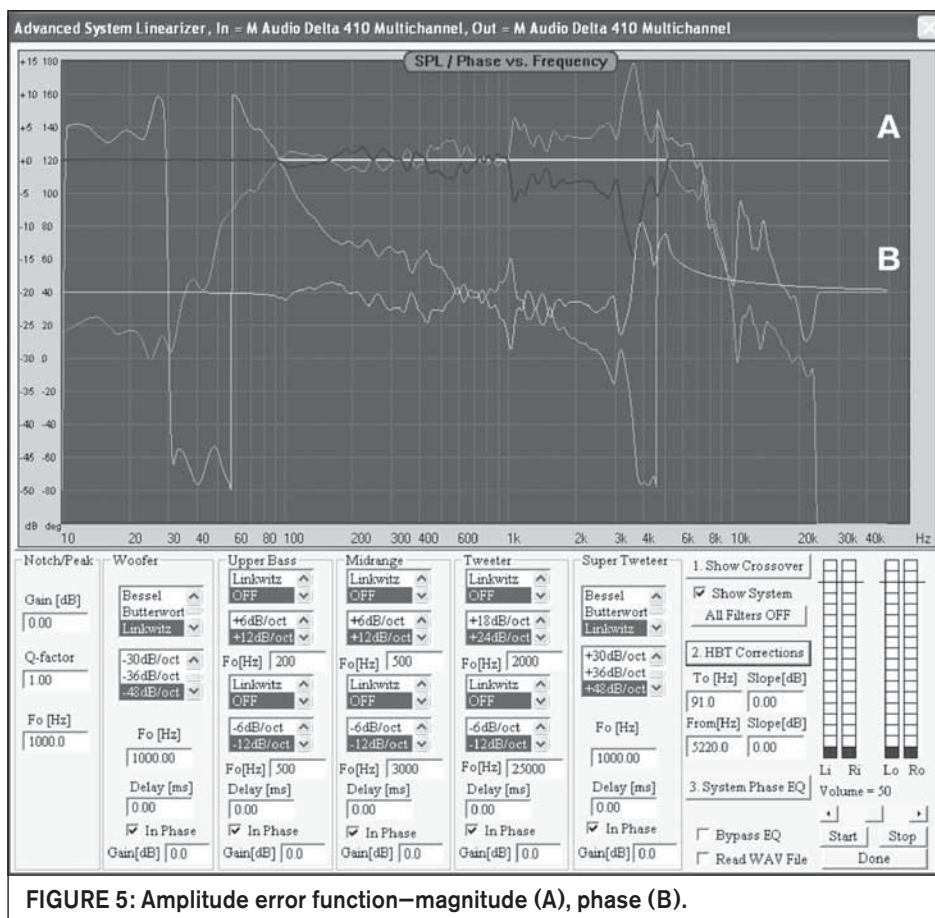

FIGURE 5: Amplitude error function—magnitude (A), phase (B).
Error Function. The bold line (A in Fig. 5) is the SPL of the Amplitude Error Function (notice, it's inverted already), and line (B) is the phase of the Amplitude Error Function. Please note mathematically correct phase response and its transitions from irregular-to-flat sections. This is the HBT in action.